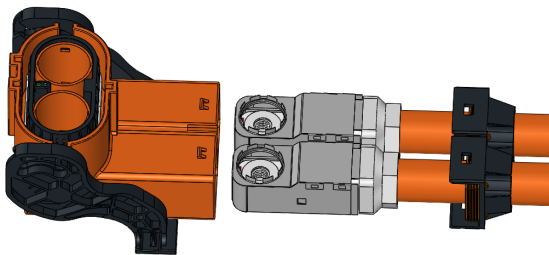

Figure 9.1.1
**Step 9:** Insert the cable assembly into the plug shell assembly (Figure 9.1.1 & 9.1.2)